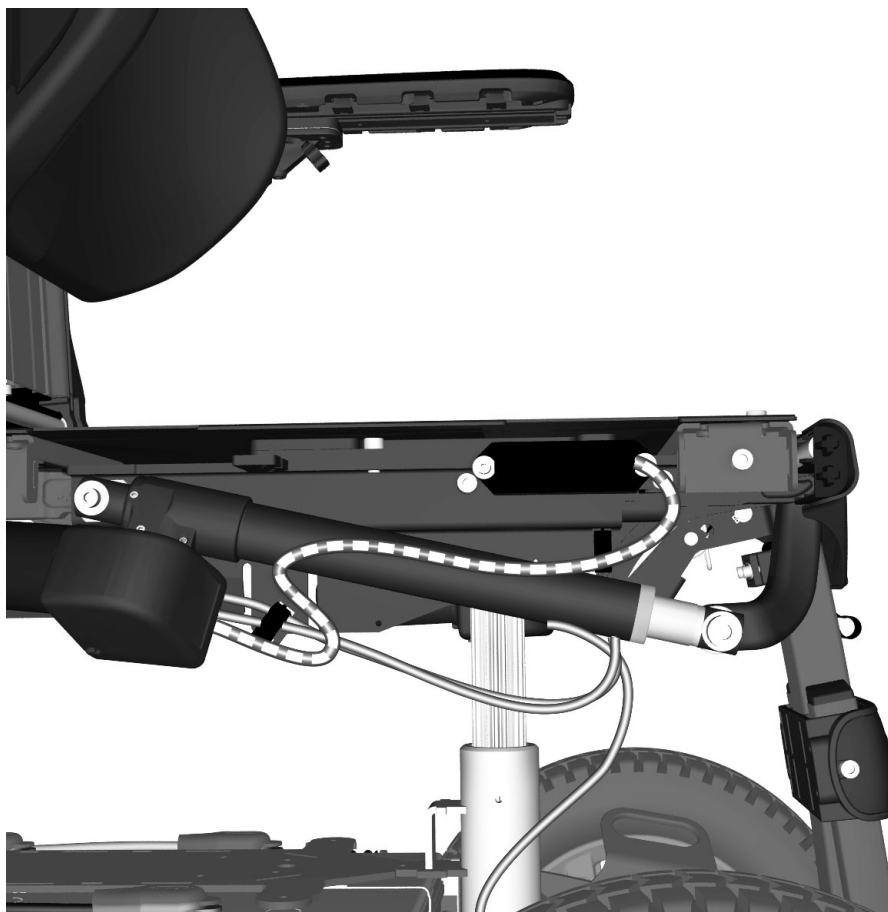

Figure 207. Actuator cabling.
3. Remove the actuator contact from the contact block above the actuator. See fig. 207. Remove the contact by pulling it straight out. Loosen the actuator cabling from its fixing points. Remember how the cabling is positioned; this helps when you come to re-attach it.
Connect the actuator contact to the contact block on the right side of the seat. See fig.207 . Fit the contact by pushing it straight in at any point.